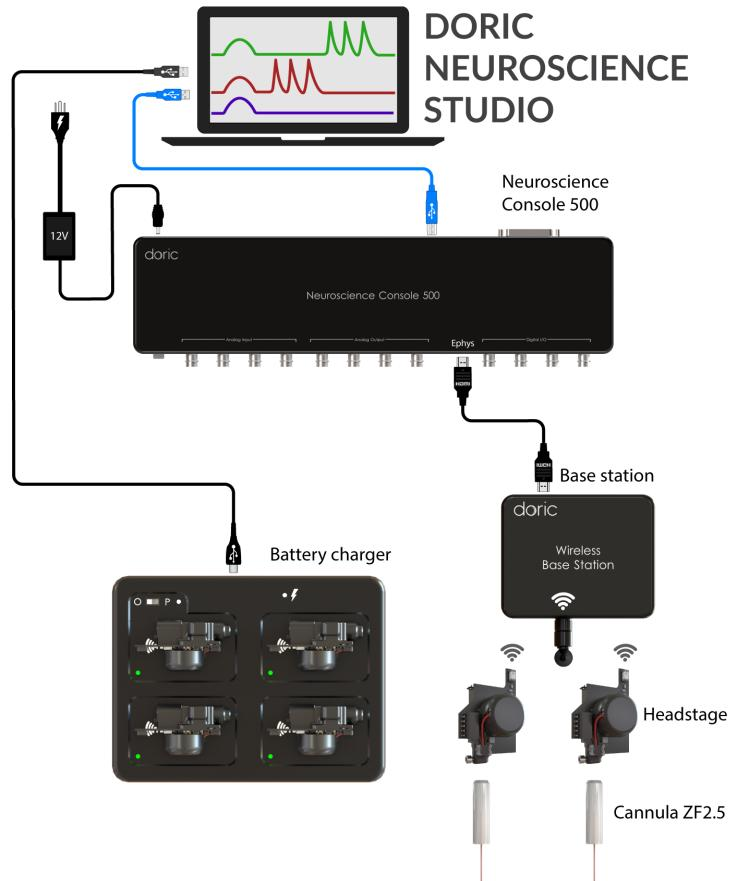

Figure 2.2: Wireless Fiber Photometry system setup using a NC500 console
Figure 2.2 and 2.3 provide a general overview of the system wiring with each console. Follow the steps below to set up the hardware:
4. If you have an NC500 console (Figure 2.2): Using the HDMI cable, connect the base station to one of the Ephys ports.